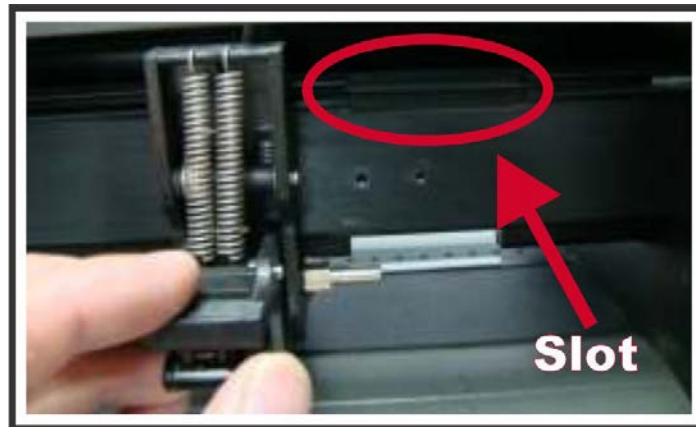

Figure 3
3. Remove the pinch roller by sliding the pinch roller right, to the notch at the right side of the rail. You can then remove it through the notch as shown in *Figure 3*.